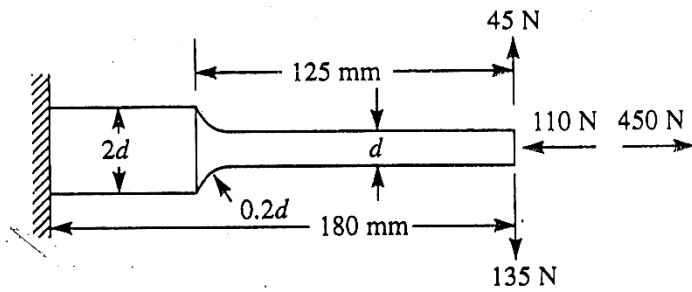

FIGURE-1.
2. A Steel cantilever is **180mm** long as shown in **FIGURE-1** .It is subjected to an axial load which varies from **110N**(compressive) to **450N**(tension) and also a transverse load at its free end which varies from **45N** up to **135N** down. The cantilever is of circular cross-section. It is of diameter **$\phi 2d$** for the first **55mm** and of diameter **ϕd** for the remaining length.**Determine its diameter** taking a **factor of safety of 2**.The strength properties are as follows: